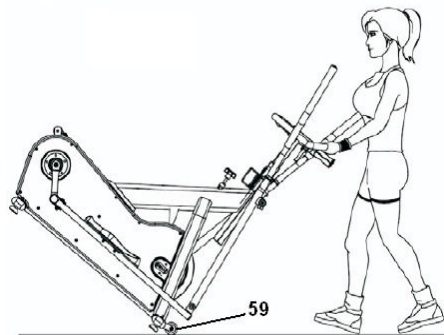

Figure 11
**MOVING & STORAGE:** to move, lift the rear of the unit up (fig. 11) until weight transferred to the wheels (59) on the front stabilizer and then move. Store the unit in a cool and dry place.